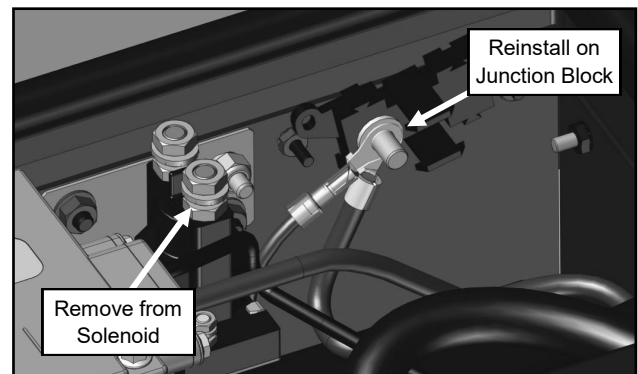

Fig. 3.3 (Power Wire Installation)
- 3.3 There are 2 red wires installed on the top of the solenoid from the factory that can be traced to the compressor and over to the relays. Remove them from the solenoid lug and attach to the 5/16" stud on newly installed junction block. Leave the nut loose for now. Figure 3.3.